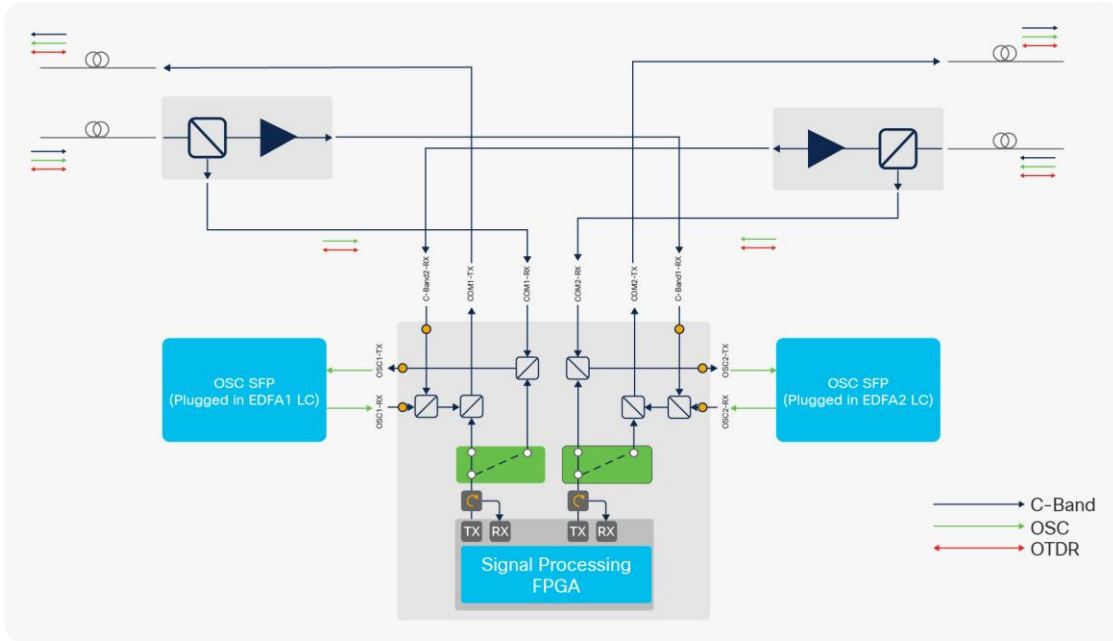

Figure 4.
- Inline Amplifier Node with two amplifiers modules—one for each direction. Figure 4 shows how the OTDR line card connects to the two amplifier modules.